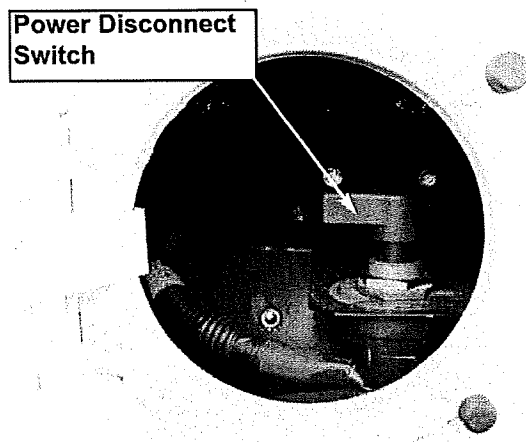

Figure 1
3. Locate the Mega Fuse Junction Block (MFJB) mounted to the back of the Disconnect Switch enclosure. **Figures 1 & 2**